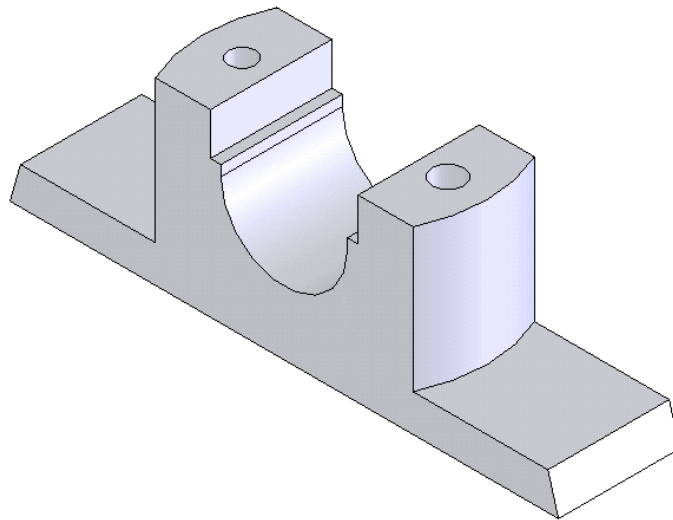

Figure 6-86 Model after adding the hole features
- e. Create a hole feature using the **Hole PropertyManager** and modify the placement of the hole feature, refer to Figure 6-86.
14. Using the same procedure create the second hole feature on the left side of the model. The model after creating the hole features is displayed in Figure 6-86.